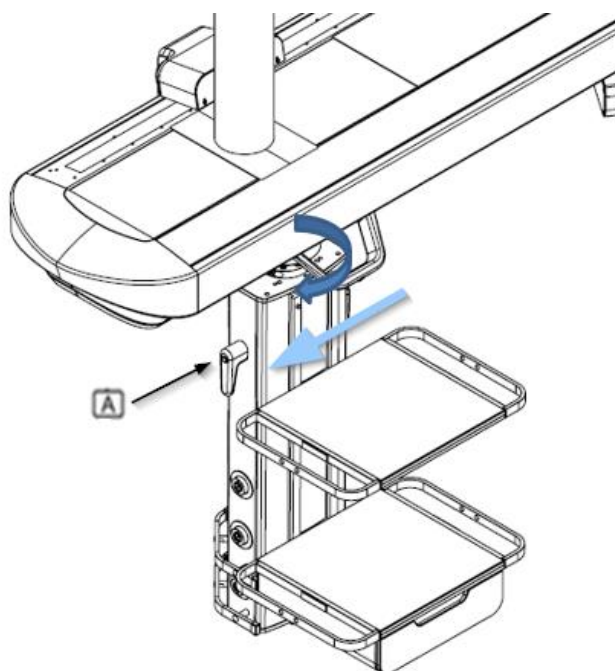

Fig.28 Unlocking the swing and travel brakes of ABITUS armless columns
For configurations without an extension arm, only drive (A) is enabled and when actuated, both the travel brake and the rotation brake are released simultaneously as shown in figure 28.